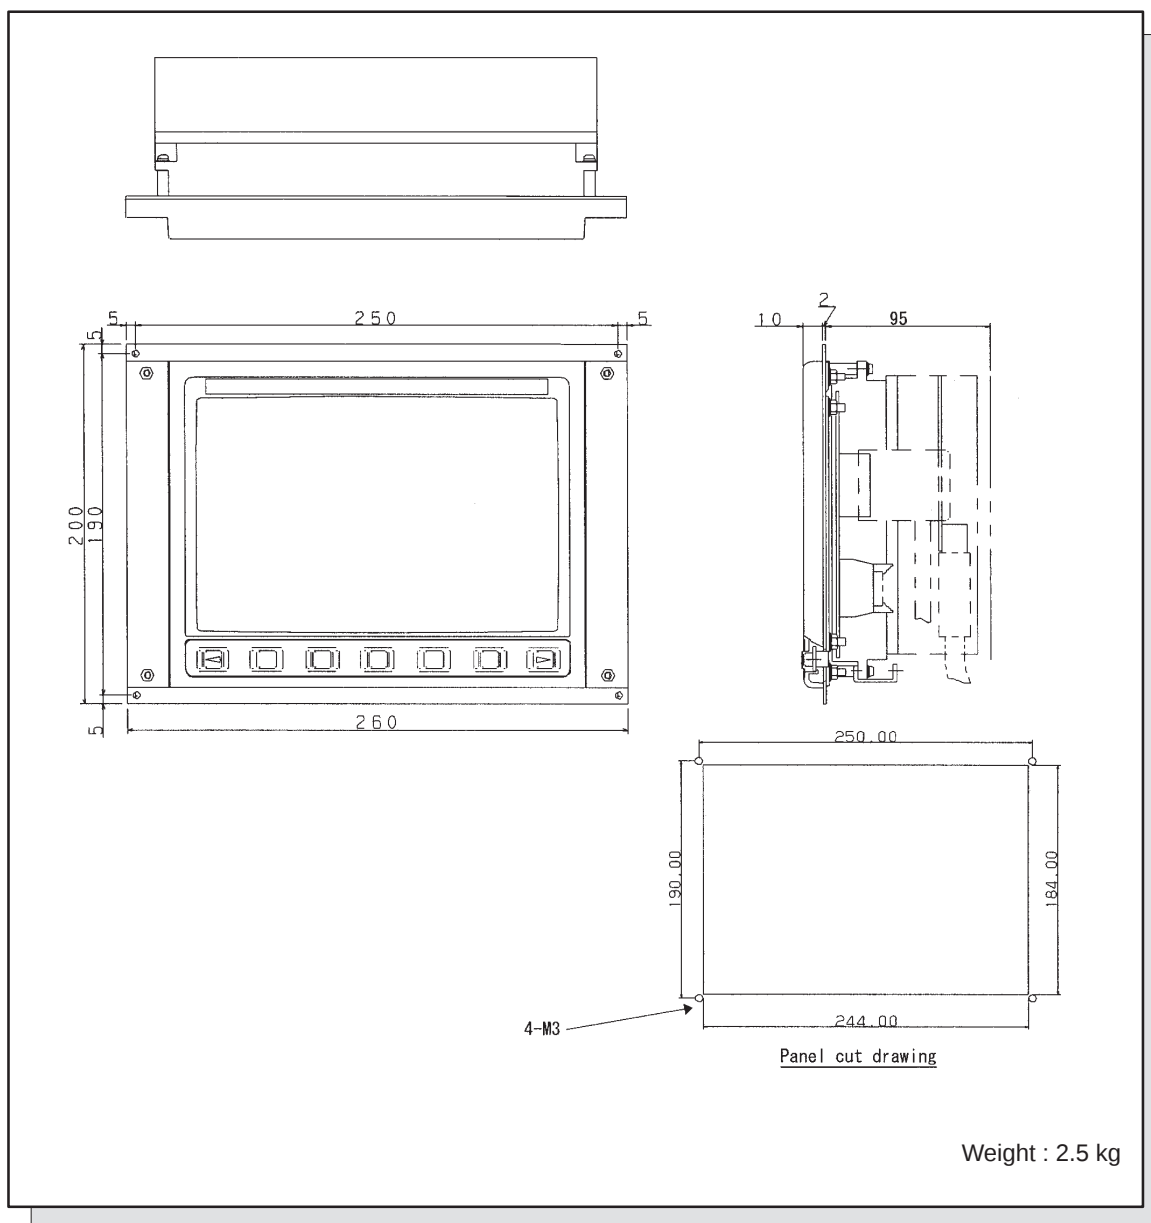

Fig. 8 9.5" LCD/MDI (VERTICAL TYPE), 10.4" LCD/MDI (VERTICAL TYPE)
9.5" LCD/MDI (vertical type), 10.4" LCD/MDI (vertical type)	Fig. 8